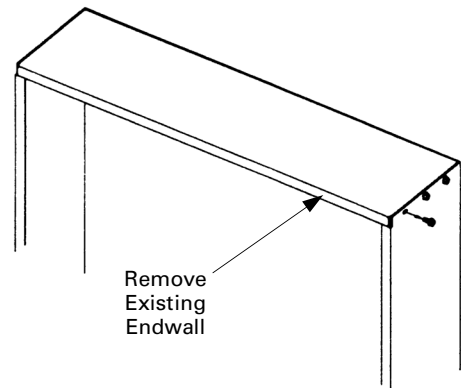

Figure 2. Removing the existing endwall from the panelboard box.
3. Remove the existing endwalls from the panelboard box, as shown in Figure 2. *Do not* discard the screws.